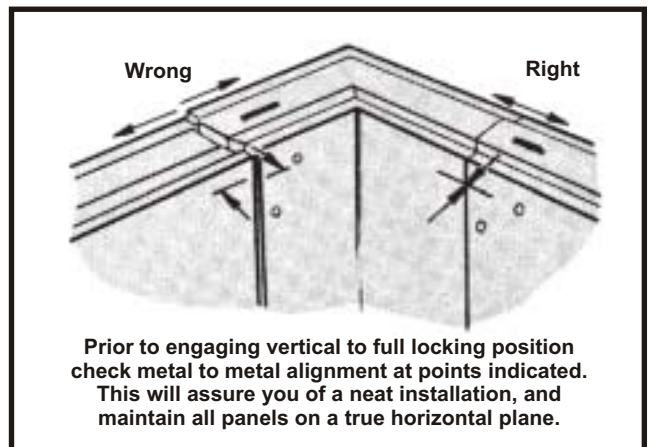
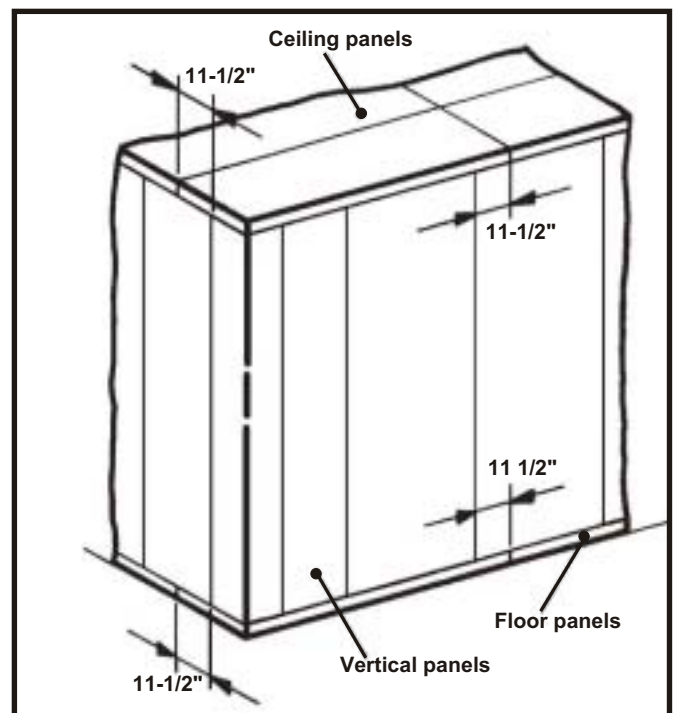

Fig. 13
Fig. 17
- C. Next, erect the vertical panel called for by the plan view to the right of the corner panel. Make sure to align the tops of the panels. (See Fig. 13.) This will help to insure that the panels remain plumb and level. Lock these panels together in the fully engaged position (except for the locks to the floor panels). Turn the locks to the floor panels to "engaged position" only. A quick and accurate way to check for correct alignment is to measure the distance from the edge of the ceiling to the nearest vertical panel joint. This measurement must be 11-1/2"; it must be maintained at every joint to assure proper assembly of the walk-in. (See Fig. 17.)
- B. Set the first ceiling panel in place on top of the vertical panels as per the plan view. Align all exterior edges of the ceiling with the installed vertical panels. A quick and accurate way to check for correct alignment is to measure the distance from the edge of the ceiling to the nearest vertical panel joint. This measurement must be 11-1/2"; it must be maintained at every joint to assure proper assembly of the walk-in. (See Fig. 17.)
- A. Set the 23-1/2" or 46-1/2" ceiling end panel in place on top of the installed vertical panels, as per plan view. Align the ceiling panel with the verticals as was described in section 6. Once the ceiling panels are set properly, lock the wall-to-ceiling locks in the fully engaged position. Continue erecting wall and ceiling panels in this manner until all panels have been installed. A quick and accurate way to check for correct alignment is to measure the distance from the edge of the ceiling to the nearest vertical panel joint. This measurement must be 11-1/2"; it must be maintained at every joint to assure proper assembly of the walk-in. (See Fig. 17.)